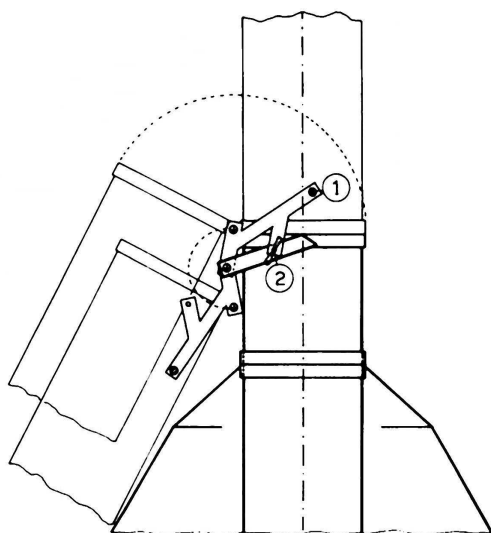

FIG 3A
**step one:** First examine the illustration below (fig 3A). Climb the external ladder and stand on the plenum. Using the lever marked 1 in fig 3A pull the over-centre mechanism bringing the folding auger toward the centre of the dryer. Lock the lever in position using the wing nut item number 2.